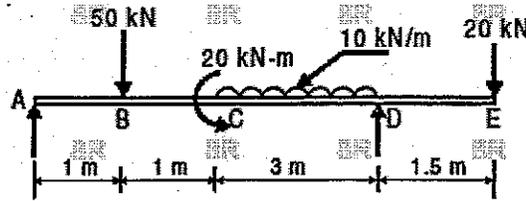

Figure 2
4. Draw the shear force and bending moment diagrams for the beam loaded and supported as shown in figure 2. [10]